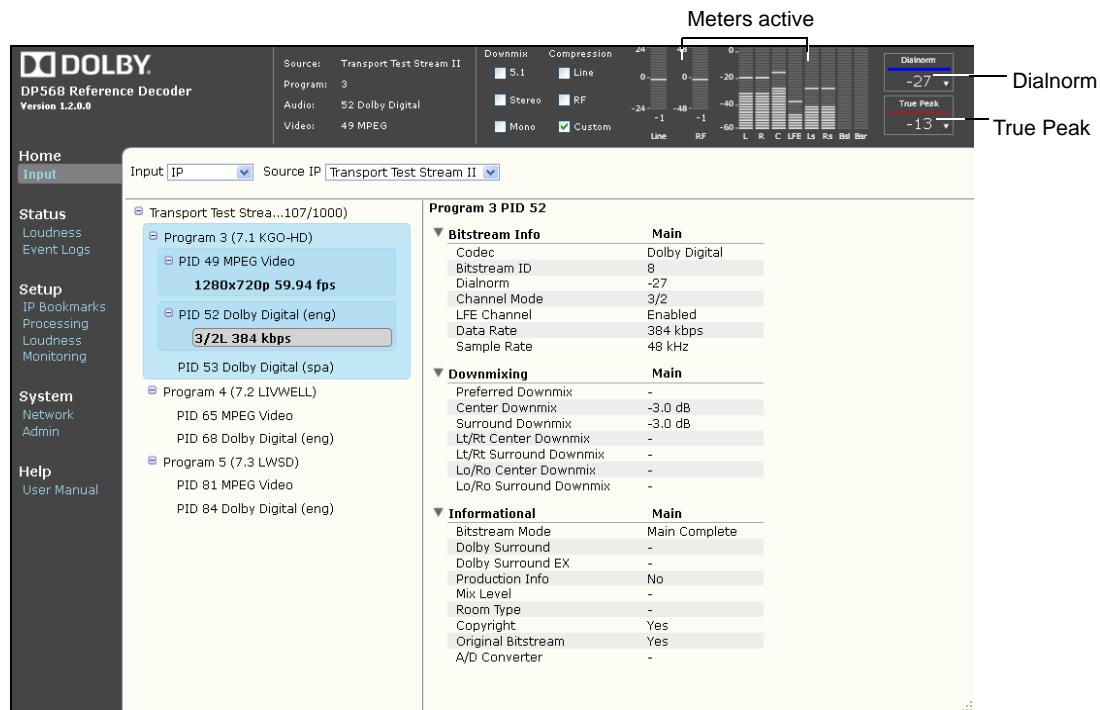
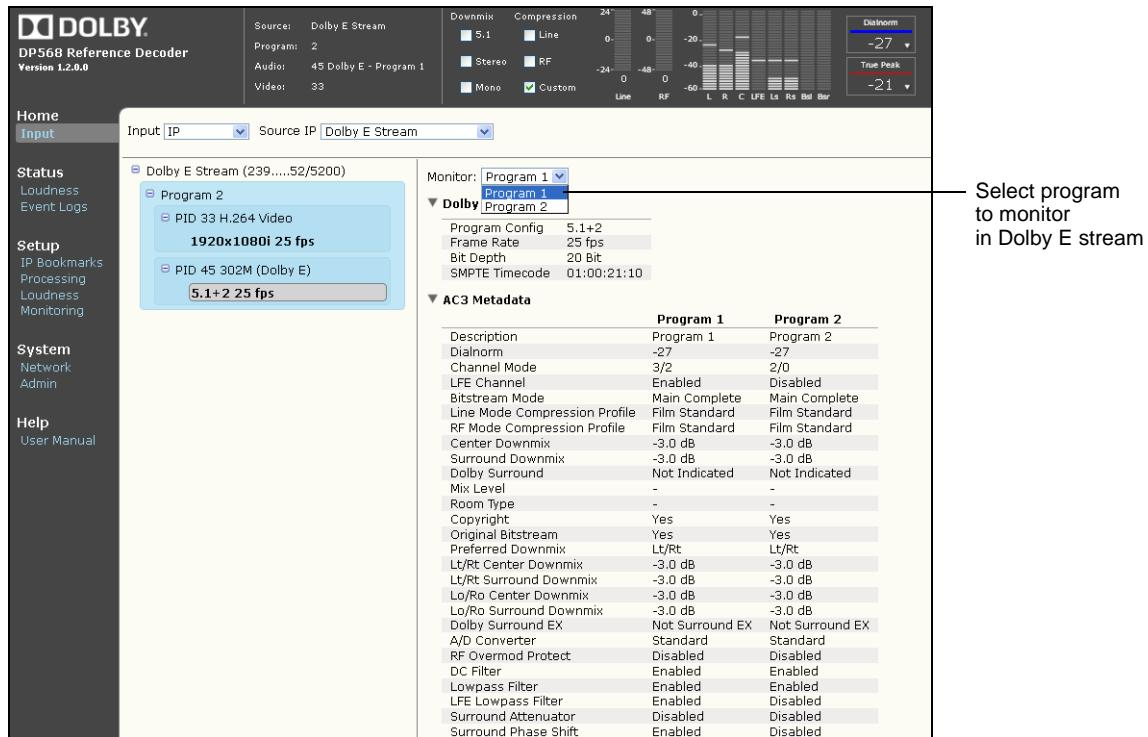

Figure 2-16 Source IP Information (Transport Stream with Metadata)
Figure 2-17 Source IP Information (Dolby E Transport Stream with Metadata)
The system monitors the first program in the transport stream and displays the corresponding metadata, a list of all included program streams, the PID for each program, and the audio and video types contained in each packet, as shown in the examples in Figure 2-16 (for a standard transport stream) and Figure 2-17 (for a Dolby E transport stream).
9. To monitor a single program in a Dolby E transport stream, click the **Monitor** field at the right side of the screen and select the desired program in the drop-down menu, as shown in Figure 2-17. (For a description of Dolby E metadata emulation and instructions on enabling this setting, see Section 2.11.3.)